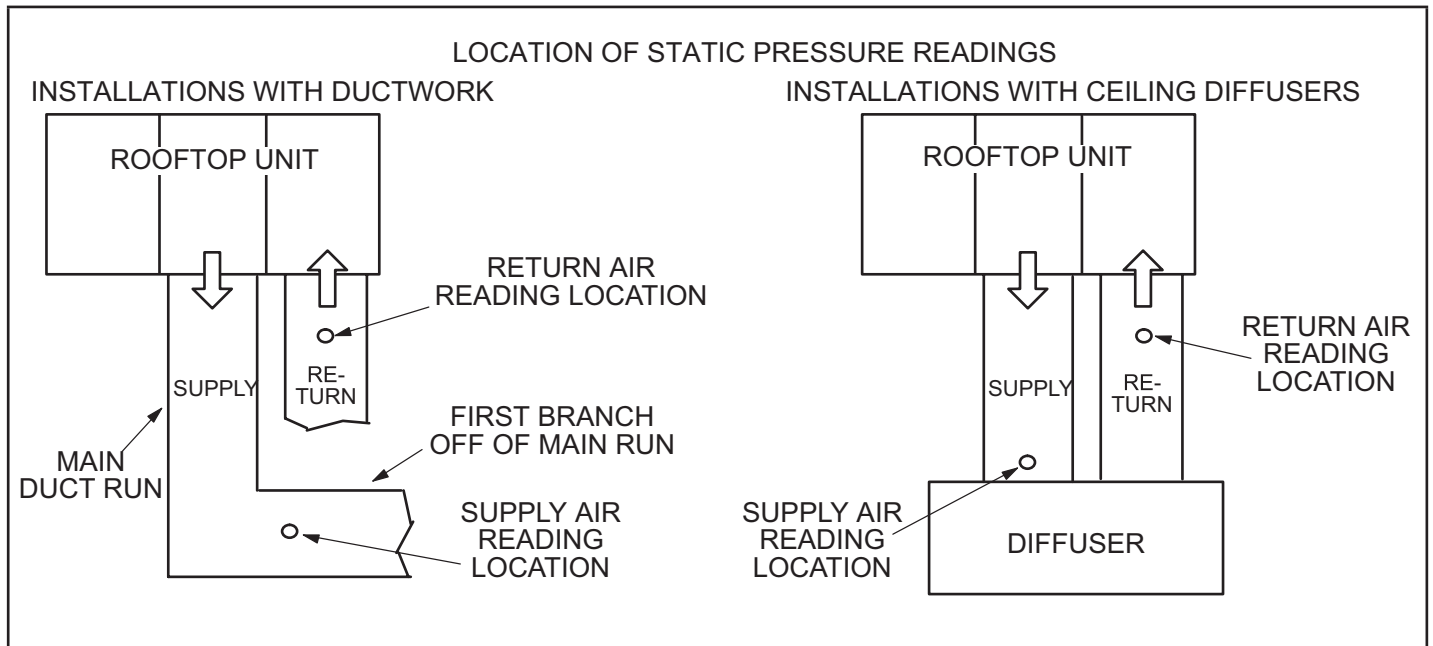

FIGURE 15
- 2 - With all access panels in place, measure static pressure external to unit (from supply to return). Add any additional air resistance for options and accessories shown in accessory air resistance tables. Blower performance data is based on static pressure readings taken in locations shown in FIGURE 15.
- 2 - With all access panels in place, measure static pressure external to unit (from supply to return). Blower performance data is based on static pressure readings taken in locations shown in FIGURE 15.